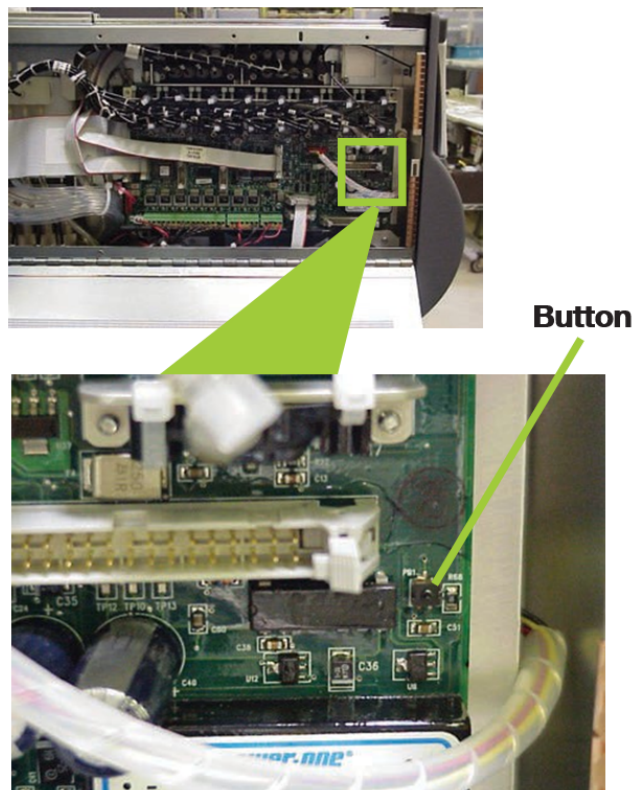

Figure 7-1. Vertex M Analyzer Manual Override Button Location
The Vertex M Analyzer is equipped with a **Manual Override** (Figure 7-1) button in the event the communications to the Vertex M Data Acquisition (DAQ) computer halts. This button activates only when the communications has completely ceased.
- Approximately 20 seconds after the Ethernet Cable has been disconnected, the Analyzer will recognize that it has lost communications with the DAq and activate the **Manual Override** button shown in Figure 7-1. The LEDs on the front of the Analyzer will flash to show a Maintenance Fault per the LED status flash pattern.